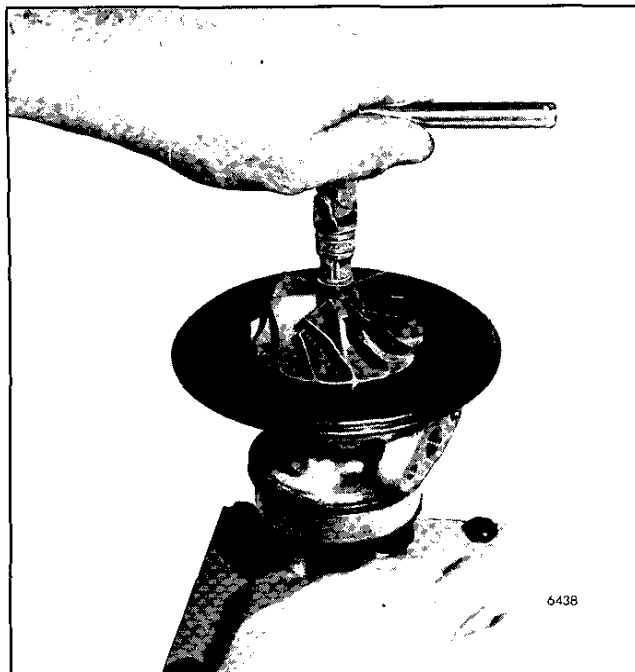

Fig. 7 - Removing Compressor Wheel Locking Nut
2. Position the turbine wheel of the center housing assembly into a suitable holding fixture J 29086-3 (Fig. 7). Remove the compressor